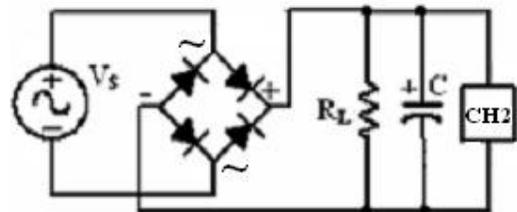

Figure 11
- 1- Construct the circuit shown in Figure 11 by using the **Bridge rectifier** component.
- 7- On the same circuit shown in Figure 11 use $R_L = 1\text{ k}\Omega$, and $C = 1.0\text{ }\mu\text{F}$, measure the ripple voltage (V_{r-PP}) when the input signal frequency is 500Hz, 1kHz, 5kHz and 10kHz and record them in Table 6 in the answer sheet. What is the effect of increasing input signal frequency on the ripple voltage? Explain.